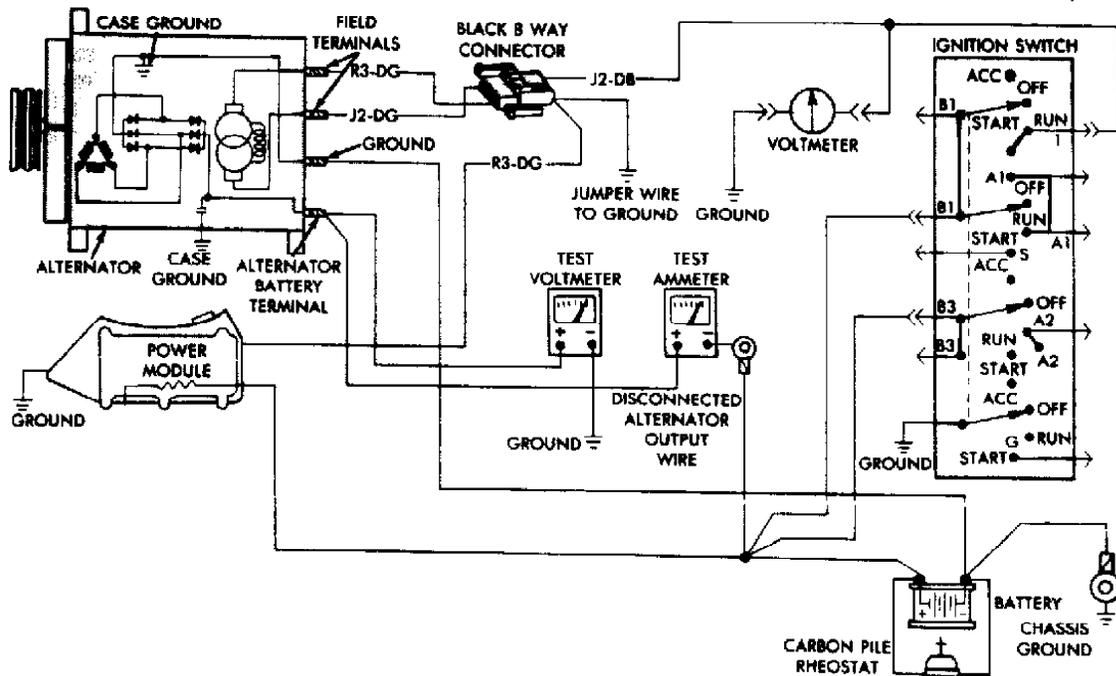

Fig. 4: Bosch 40/90 Alternator Current Output Wiring Diagram
2) Connect a 0-150 ampere scale DC ammeter in series between alternator "Bat" terminal and disconnected alternator output wire. Connect positive lead to alternator "Bat" terminal and negative lead to disconnected alternator output wire. See Fig. 4.